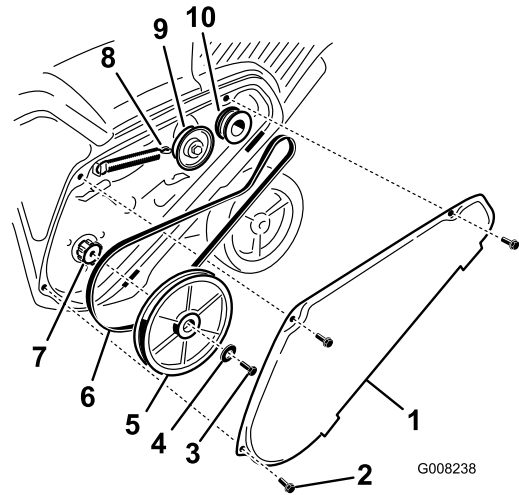

Figure 32
1. Remove the drive-belt cover by removing the 3 bolts as shown in Figure 32.
2. Unhook the brake spring from the idler arm to release the belt tension (Figure 32).
3. Remove the screw and curved washer that holds the rotor pulley (Figure 32).
4. Remove the rotor pulley and the drive belt (Figure 32).
Note: Route the new drive belt first around the engine pulley, then the idler pulley, and finally around the loose rotor pulley positioned just above the rotor shaft (Figure 32).
6. Install the rotor pulley onto the rotor shaft (Figure 32).
7. Install the curved washer and the rotor-pulley bolt and tighten them securely (Figure 32).